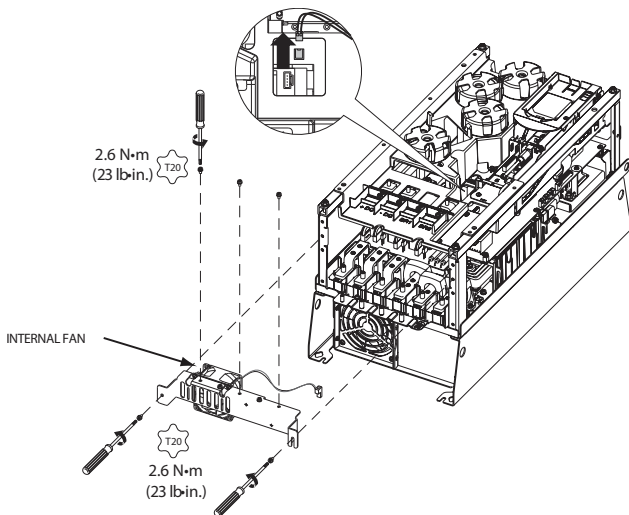

Fig. 26 — Internal Fan, Frame 6
5. Remove and replace the internal fan. See Fig. 26.